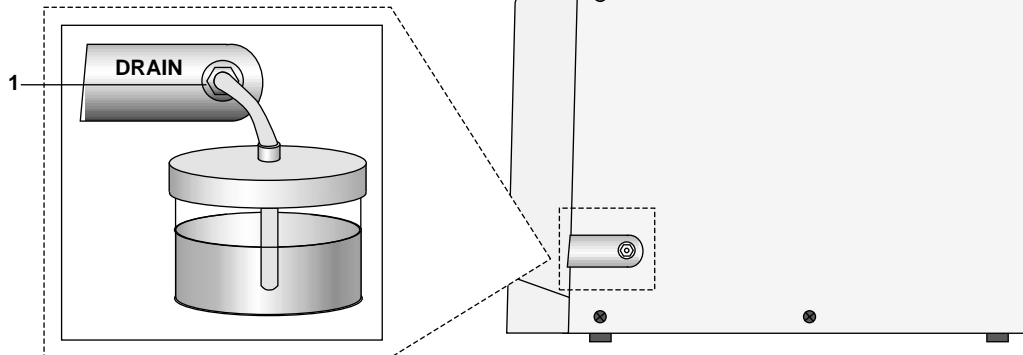

Figure 2.3
2.3.3 RIGHT SIDE PANEL (Figure 2.3)